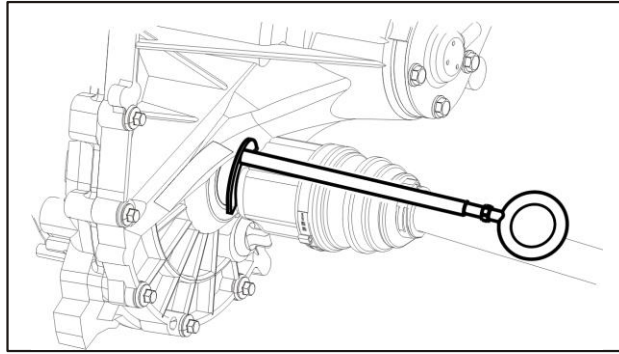

Figure 4-90 Separate Drive Shaft from Differential
(6) Separate the wheel hub from left/right drive shafts, and if necessary, knock the drive shaft with small wooden hammer or rubber hammer so as facilitate the separation of wheel hub from drive shaf
(7) As shown in Figure 4-90, separate the left/right drive shaft from the differential by using the special service tool.